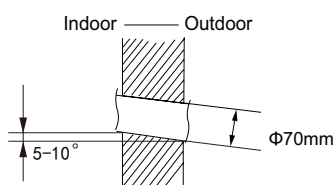

Fig.2
(2) Open a piping hole with the diameter of $\Phi 70\text{mm}$ on the selected outlet pipe position. In order to drain smoothly, slant the piping hole on the wall slightly downward to the outdoor side with the gradient of $5\sim 10^\circ$. (As show in Fig.2)